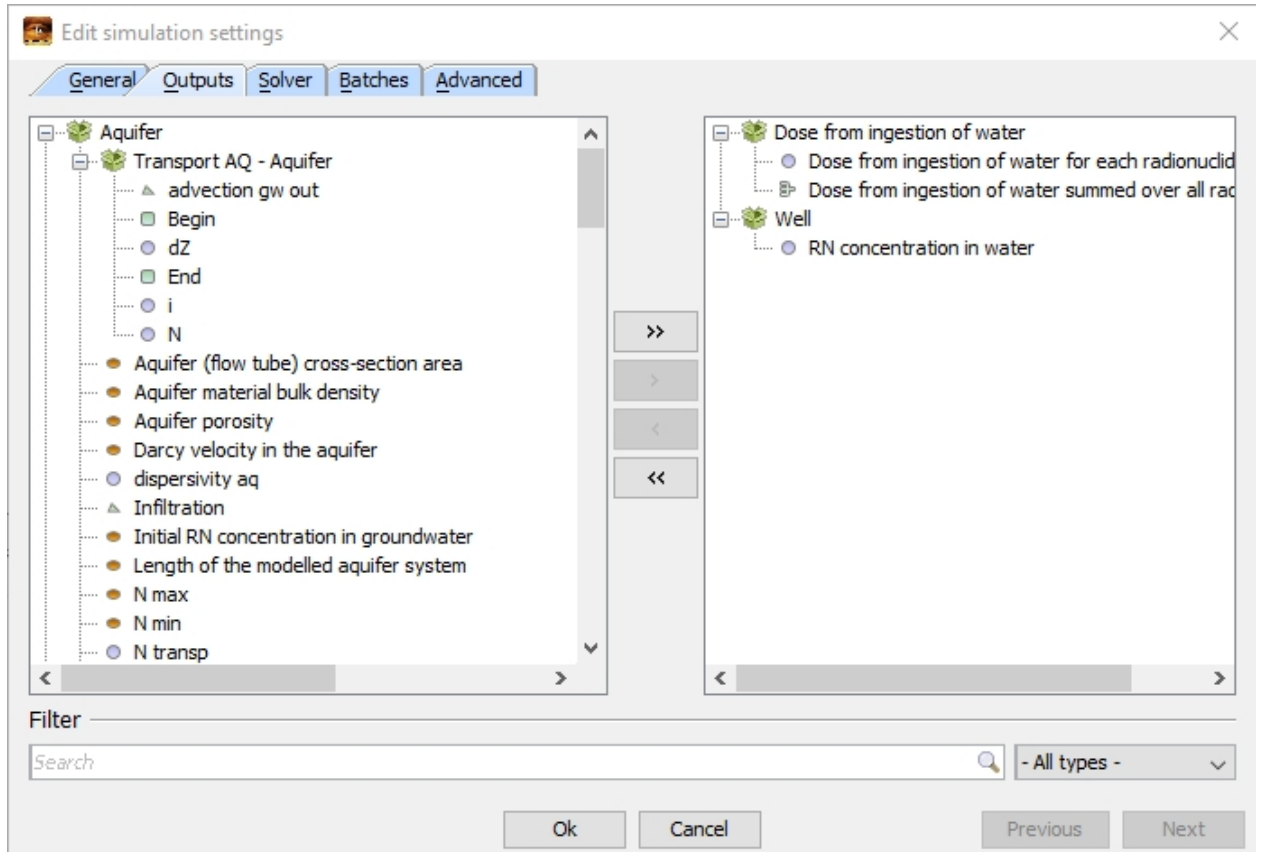

FIG 16. 'Edit Simulation Settings' window with selected list of output parameters.
5. The resulting 'Edit Simulation Settings' window with selected list of output parameters is shown in FIG 16.